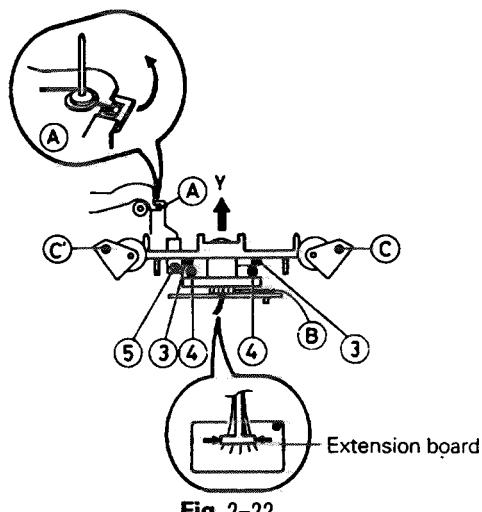

Fig. 2-22
■ Removal of pinch roller (See Fig. 2-22)
1. Remove three screws ① retaining the motor assembly.
2. Remove two screws ② retaining the motor bracket.
■ Remove of head assembly (See Fig. 2-22, 2-23)
3. Remove two screws ③ retaining the head assembly.
4. Remove two screws ④ for the head azimuth.
5. As shown in Fig. 2-22, remove the gear (B) shaft as pulling it along the "Y" direction and raise the head assembly with your hand.
6. Turn the erosion head arm assembly (A) along the arrow direction and remove it referring to Fig. 2-22.